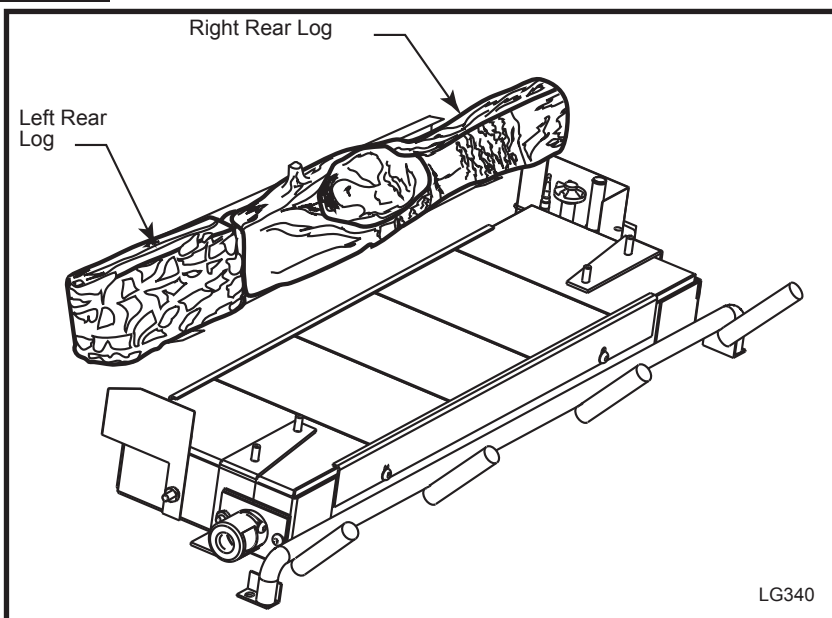

Fig. 50 Place Right and Left Rear Logs on rear log support.
3. Place Right Rear Log onto the two pem studs on the rear log support. Place the Left Rear Log on the left side of the rear log support and push the log up against the Right Rear Log. (Fig. 50)